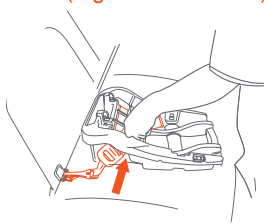

Fig. 48-2
6. Proper installation of the Base requires that the **LATCH** webbing be very tight. To tighten the webbing, push down hard with your knee or hand on the Base while pulling upward on each webbing end. The webbing will automatically lock in place. **Check that there is no slack in the webbing on both sides of the base and that the base is tightly installed (Fig. 48-2 and 48-3).**